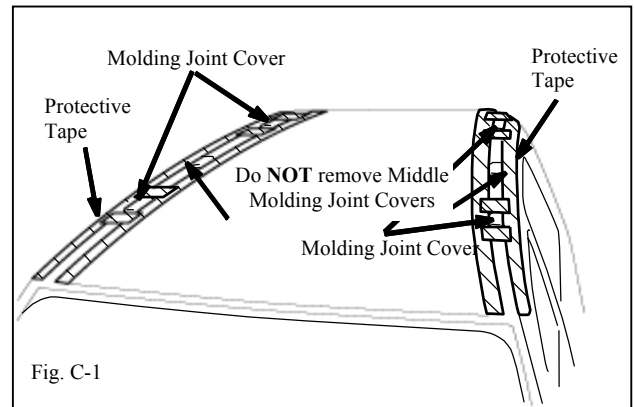

Fig. C-1
1. To install the side rails the front and rear molding joint covers on both sides must be removed. (Fig. C-1)
2. When removing the molding joint covers, to prevent vehicle body damage, apply protective tape (masking tape) to both ends of the grooved moldings and to both sides of the factory molding joint groove. (Fig. C-1)